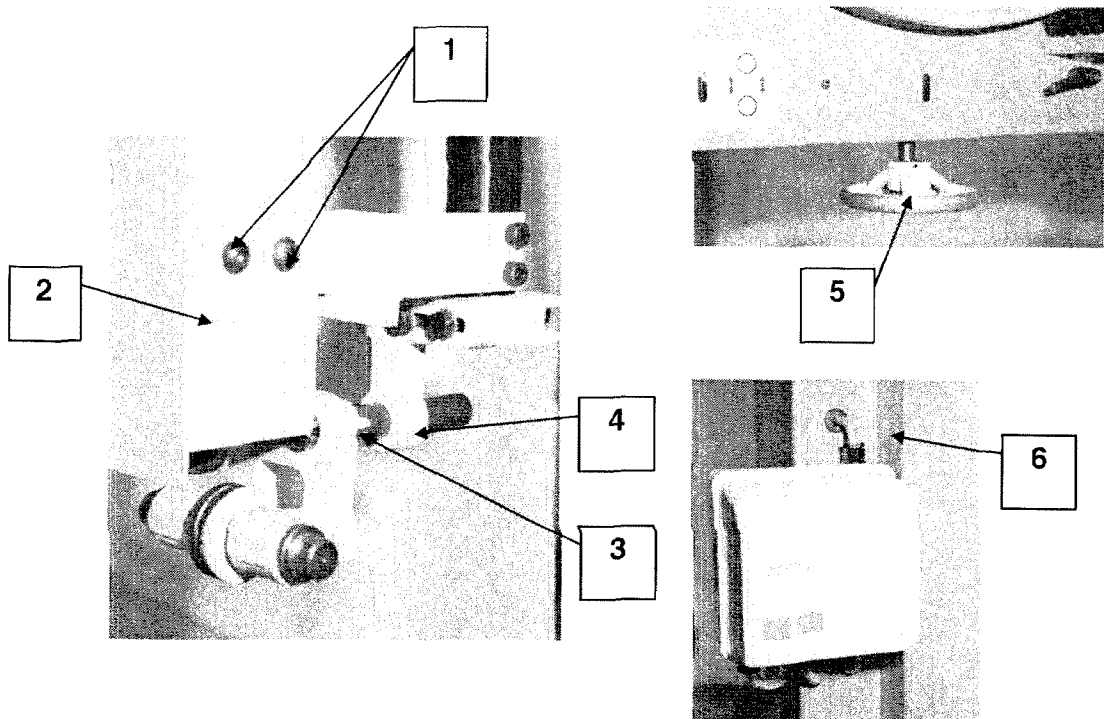

Figure 5.2
5.2 Fitting a Saw Blade (Figure 5.2)
- 6) Slacken thumbscrew (5) and move the rear roller just clear of the back of the saw blade; tighten thumbscrew (5).
- 7) Refit the top saw guard ((2) Figure 5.2).